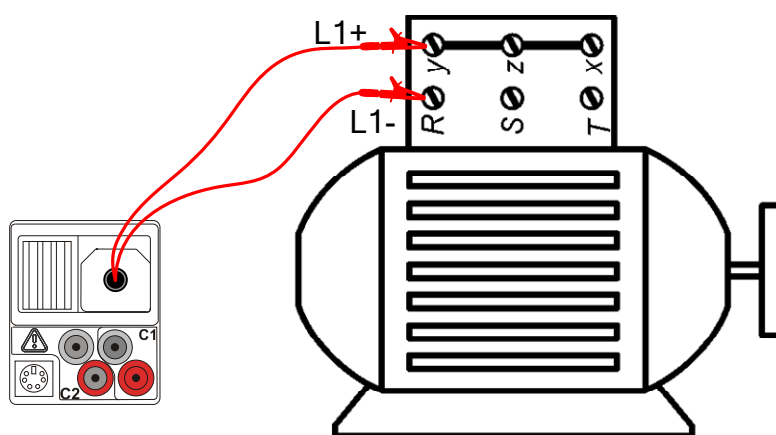

Figure 5.13: 2-wire test lead application
- ❑ **Connect** the test leads L1+ and L1- to the tested object (see *Figure 5.13*).